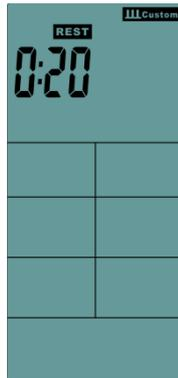

FIG 16
4. Press "ENTER" confirmed, "REST" ICON is flashing, LCD window "TOTAL TIME" display the presetting value 0:20. Press "UP - DOWN" button to setting (setting range: 0:05~30:00), it is non-recyclable (FIG 16).